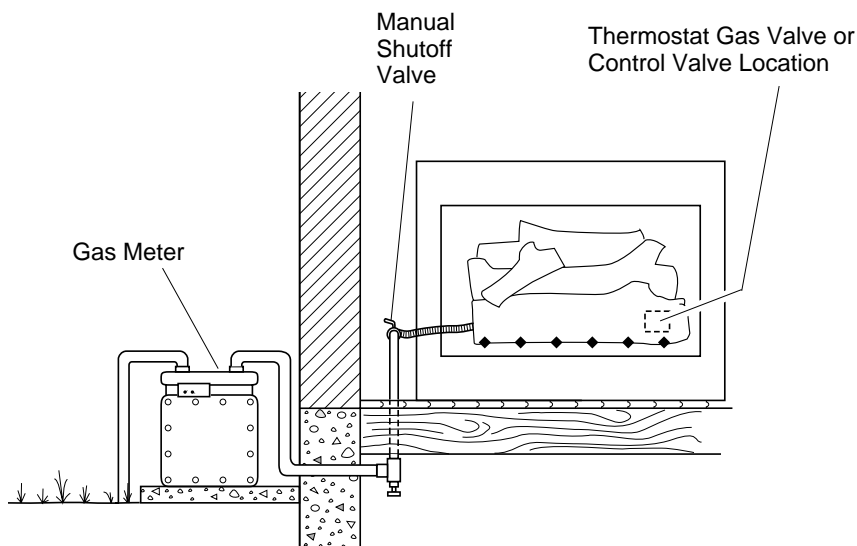

Figure 17 - Checking Gas Joints
3. Check all joints from gas meter to manual shutoff valve (see Figure 17). Apply mixture of liquid soap and water to gas joints. Bubbles forming show a leak.
4. Check all joints from manual shutoff valve to control valve (see Figure 17). Apply mixture of liquid soap and water to gas joints. Bubbles forming show a leak.